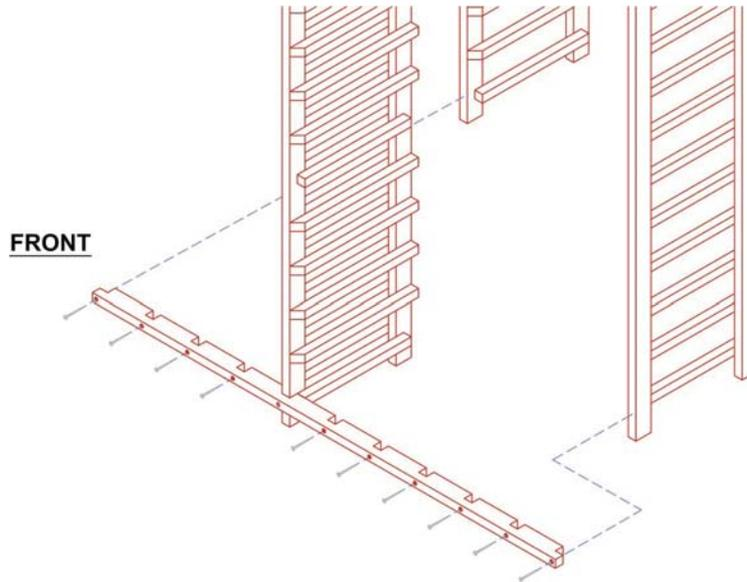

Figure 2
5. Repeat step 4 until all (9) double-sided ladders are in place.
6. Set the two single-sided ladders with the backs on the floor (angled slats facing up) and into the open end rabbet (or slot) locations (**Figure 2**). Make sure that the slat sides of the ladders face inward toward the other ladders. Align the spacer bar at the spacer slat location. ****Pre-drill through your existing screw holes on your spacer bar and into the ladder uprights. Secure both ladders with screws as before.**